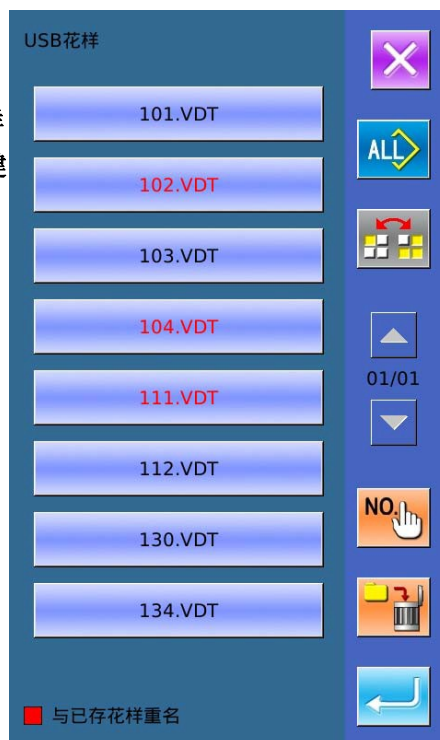

图1
注：如果U盘中花样与操作头中花样存在同名的情况，花样号码会显示出红色，此时红色号码的花样就需要利用F键操作才能导入操作头。如图1所示。
② Press button A to enter the interface for inputting patterns from U Disk
**Note:** If the pattern in U disk has the same name to the pattern within the panel, the pattern number will be displayed in red. The pattern with red code can only be inputted with button F, as shown in figure 1